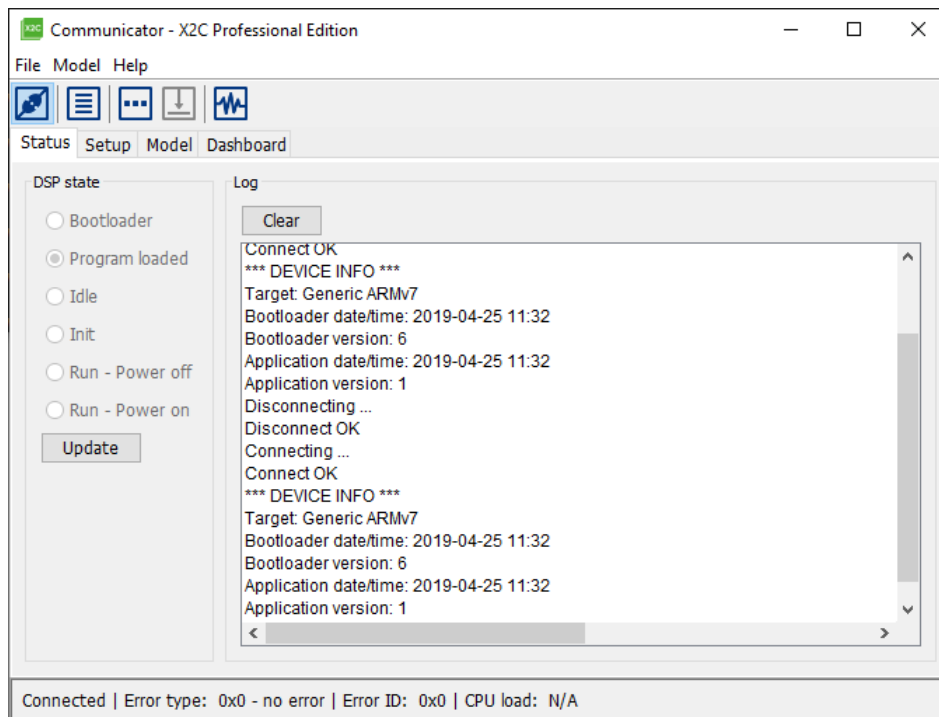

Figure 11: *Communicator* status
- In the **Status** tab there are two main areas as seen in Figure 11. In *DSP state* the current status of the connected target is shown. The following states are possible: